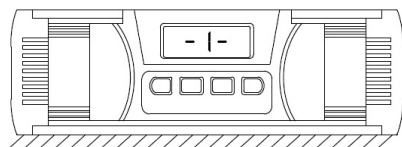

Fig. 1
- » Place the instrument on the sea surface, press the „ON/OFF“ and „HOLD“ button and enter the calibration mode, „-1-“ will be displayed (Fig. 1).